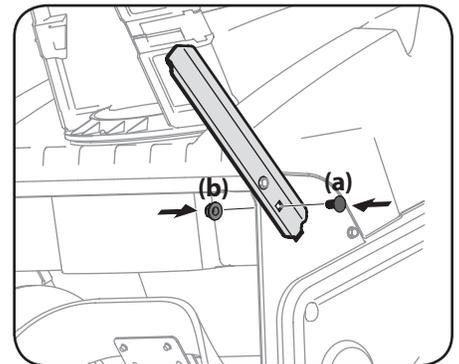

Figure 2-15
2. Install the drift cutters and secure with the carriage bolts (a) and flange lock nuts (b) removed in Step 1. See Figure 2-15.